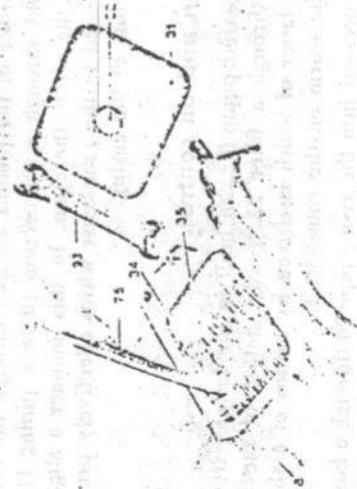

Fig. 11 Adjustment of the valve clearance of the touring machine
Also the valve clearance between the valve stem 36, and the tappet screw 35 or the thrust screw 5 (figs. 11, 12 and 20) which should amount to about 0.004" (0.1 mm) with the cold engine, must be checked from time to time. For this purpose it is best to use a narrow strip of note paper which corresponds approximately to the clearance. The adjustment of the valve clearance of both machines is described below; as said before, it must not be done except with the cold engine.
Touring machine: First the cover 31 to the valve chamber is taken off by unscrewing the head screw 32 connected with same (figs. 11 and 20). Before adjusting convince yourself that the tappet 33 seats on the circular
part of the cam and that it does not by any chance touch the ascending or descending cam curve, which is easily determined by turning the crankshaft slightly forwards or backwards by means of the kickstarter. In doing so the tappet 35 must neither rise nor sink. The tappet is held firmly in position by means of the key 73 supplied with the tools and the lock nut 34 located on the tappet is unscrewed with the second key 93. Now screw 35 on the tappet can be adjusted in such a way that the paper strip A can be introduced between valve stem and tappet screw 35 without difficulty. If the adjustment is correct, the lock nut 34 is tightened again, whilst the tappet screw 35 is held fast with the key 93. After this the valve chamber must be closed again by the cover 31 (fig. 11).